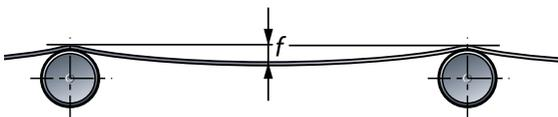

Figure 3
- Check whether the tension is correct by measuring the sag of the belt between two idlers in the bottom strand. The values in figure 3 are valid for a pretension of 10 N/mm2 (1450 psi).